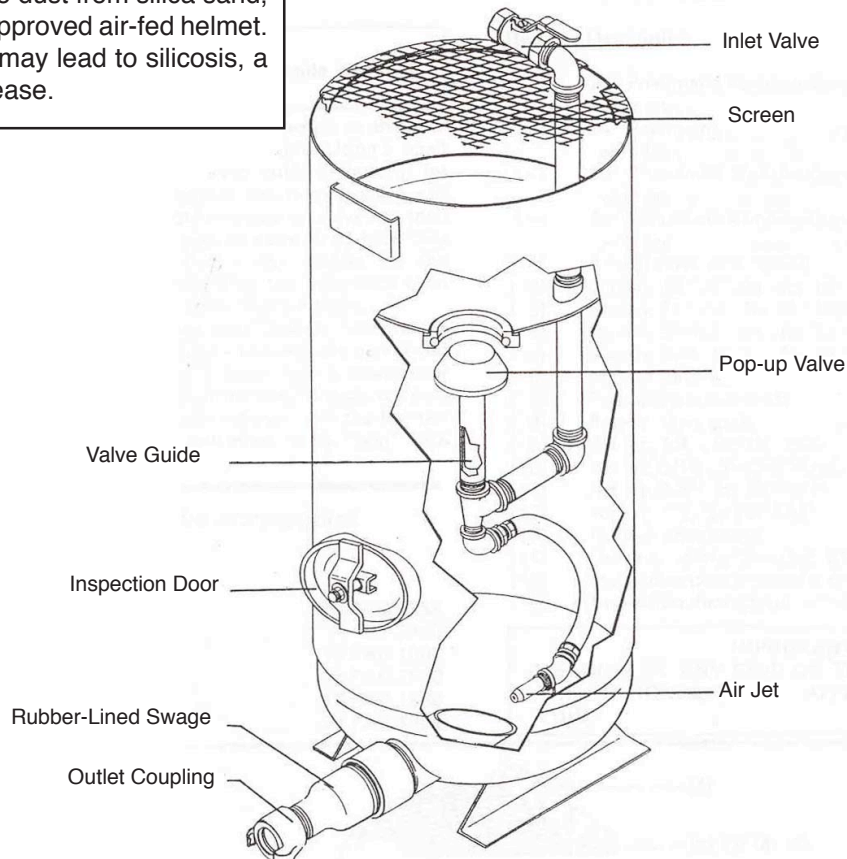

Figure 1
1.1 General Description. Clemco is Pneumatic Abrasive Conveyor (PAC) moves abrasive by means of compressed air. Air entering the unit through the inlet valve (Figure 1) causes the pop-up valve to seat and the vessel pressurizes. An air jet at the bottom of the unit entrains abrasive and forces it through the rubber-lined swage into the abrasive hose, which carries it to its destination.
3.1 Replacing the Pop-Up Valve. To gain access to the pop-up valve, remove the inspection door assembly. Using a small pipe wrench, unscrew the pop-up valve guide (Figure 1) by turning it counter-clockwise. Remove the pop-up valve and guide from the machine, install the new pop-up valve and then screw the valve guide (with the pop-up valve in it) back into position inside the machine. Put a new gasket on the inspection door assembly before bolting the door back onto the machine. After tightening the bolts, test for leaks.